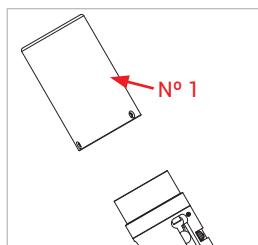

Figure 7
- ▶ Retirez doucement le manchon de protection anti-choc (nº 1) (*Figure 7*).